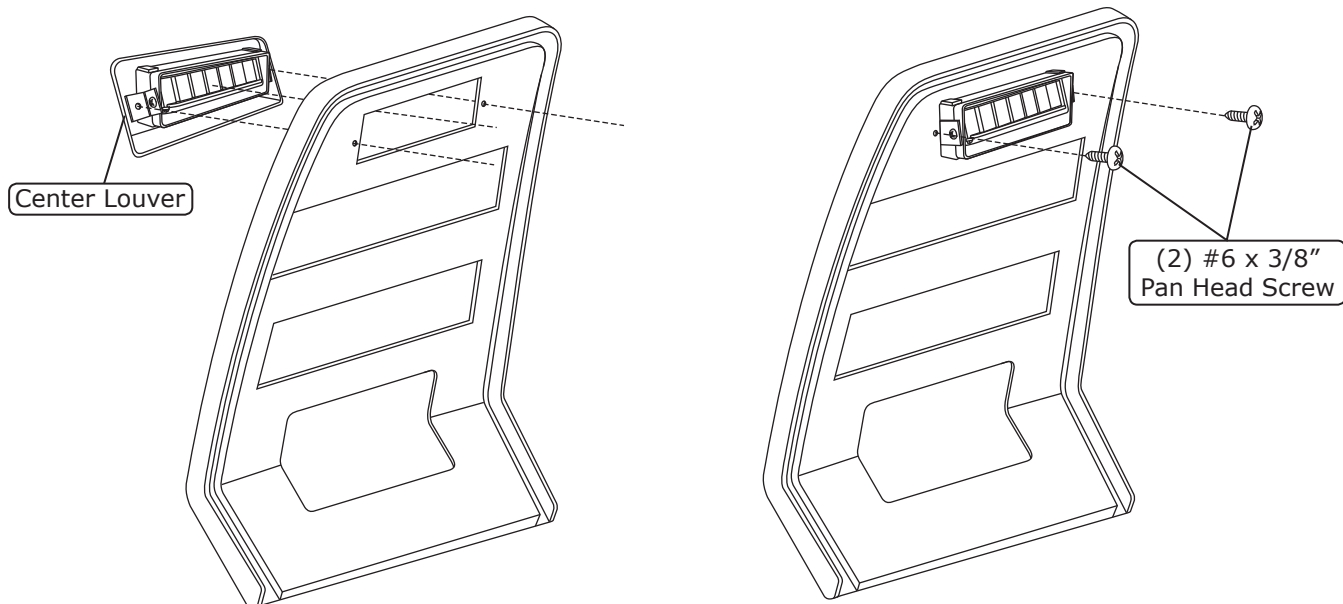

Figure 6
1. Install the center louver into the trim plate as shown in Figure 6, below.
2. Secure the center louver to the trim plate using (2) #6 x 3/8" pan head screws as shown in Figure 6, below.